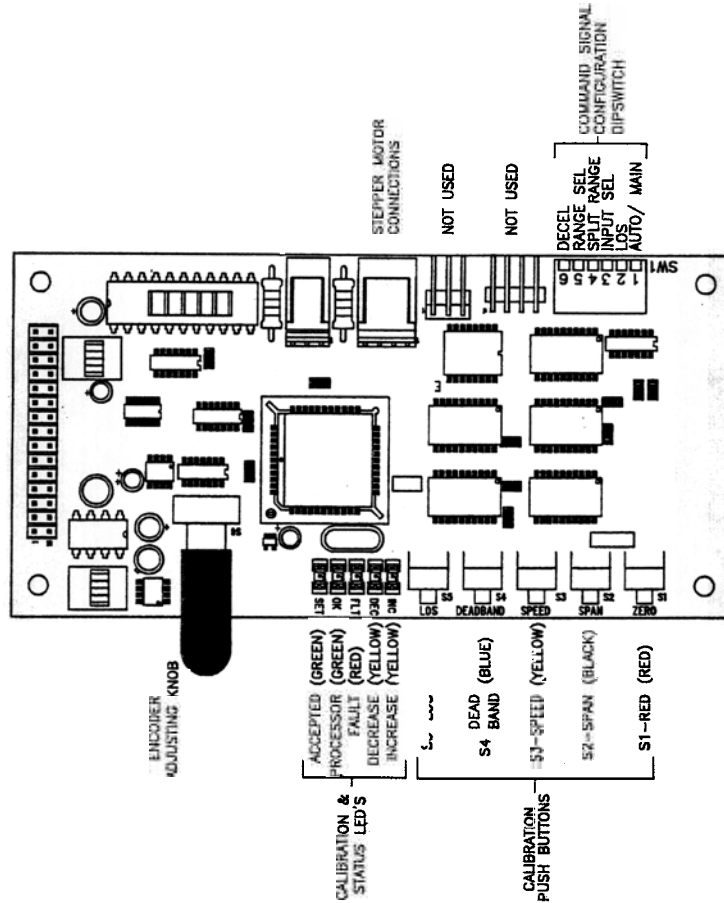

FIGURE 3B LOWER PC BOARD
3.3 COMMAND SIGNAL: Dip Switch SW1 selects Command Signal options. Dip Switch SW1 is a six switch assembly located on the front-right of the Lower PC Board – see Figure 3B.